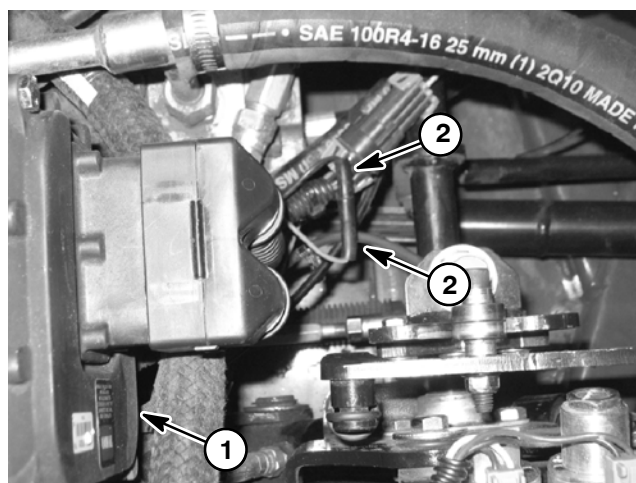

Figure 11
4. Remove diagnostic tether cap from diagnostic shunt wires and connect the two (2) shunt wires together (Fig. 11).